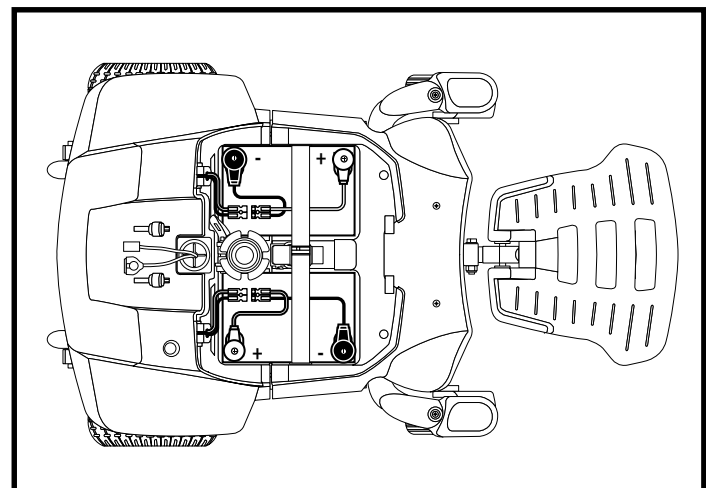

Figure 18. Battery Orientation
5. Place the new batteries with the terminals facing out as shown in figure 18.